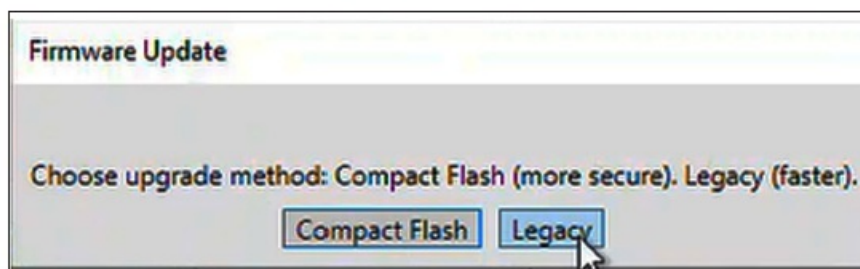

Figure 19. The Firmware Update dialog box update method choice.
- **STEP 8.** The Firmware Update dialog box will prompt for the selection of the update method. Click on one of the options to proceed. See Figure 19.